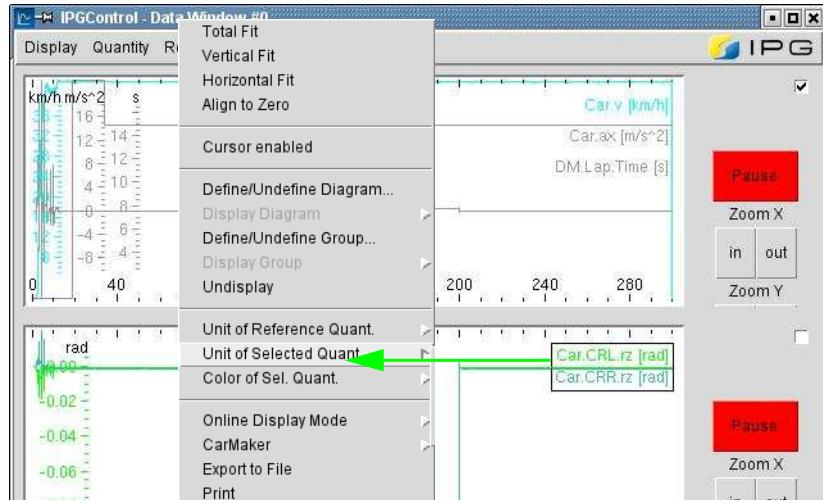

Figure 3.40: Context menu opens with after clicking RMB on plotted value
- Then click RMB on the active UAQ (see Figure 3.40). Once you've clicked the context menu opens and offers you a variety of options. Choose from "Unit of Selected Quantities > deg" for both UAQ and "fit the data totally" in the drawing field.